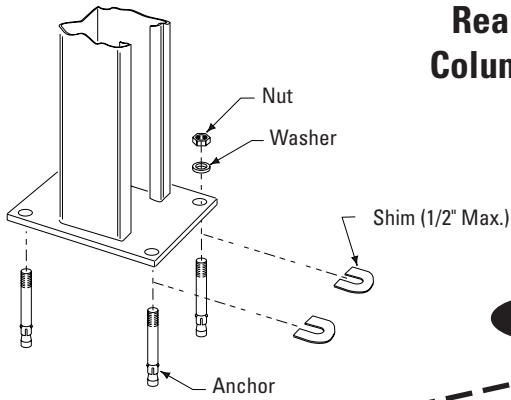

Fig. 14
2. Place shims (estimated from Step 3) under each column. Drill four 5/8" (16mm) diameter holes through concrete floor using holes in baseplate as guide, Fig. 14.
3. Insert anchors with washers, Fig. 14. 5/8" anchors must have a minimum anchor embedment of 2-3/4" (70mm). If the top of the anchor exceeds 1-1/2" (38mm) above the floor grade, you DO NOT have enough embedment.
- D. Next, move the target and place it on the runway at point "B", Fig. 18. Rotate the Level and focus on the target scale. Adjust the column at "B" using shims under base plate, Figs. 14 and 15, until the cross-hairs of Level align to reference mark on the target scale. Repeat for points C and D.